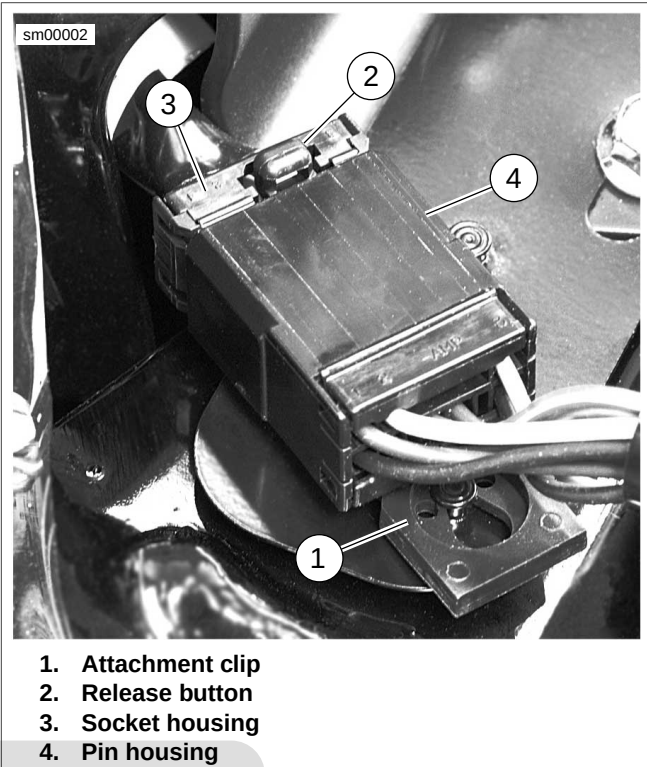

Figure A-55. Tyco 070 Multilock Unsealed Connector
See Figure A-55. Attachment clips (1) on the pin housings are fitted to T-studs on the motorcycle frame. The T-studs identify OE connector locations. To maintain serviceability, always return connectors to OE locations after service.
2. See Figure A-55. Press the release button (2) on the socket terminal side of the connector and pull the socket housing (3) out of the pin housing (4).